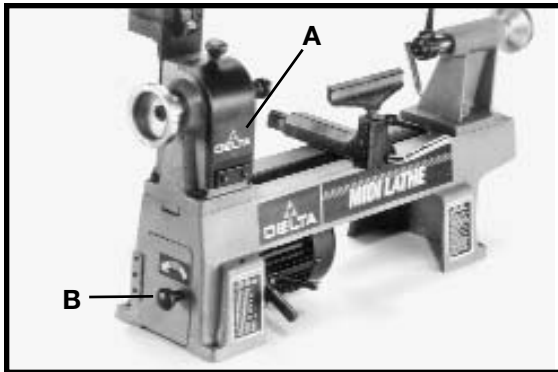
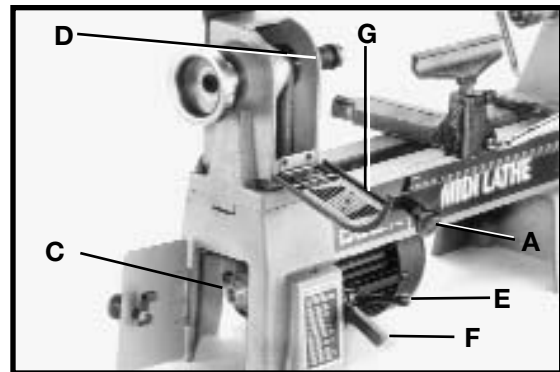
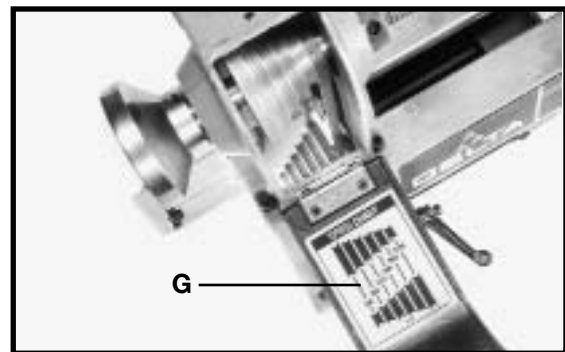

Fig. 19
Fig. 20
Fig. 21
- Open access doors (A) and (B) Fig. 19 to gain access to motor pulley (C) Fig. 20, and spindle pulley (D).
- Loosen locking lever (E) Fig. 20 to relieve tension on the motor pulley. Raise lever (F) Fig. 20, and tighten locking lever (E) to enable the drive belt to be moved on the pulleys. This action will provide the desired spindle speed for your particular application.
IMPORTANT: A speed and belt position chart (G) Figs. 20 and 21 is located on the inside of the access door (A) to help position the belt (H) Fig. 21 correctly on the pulleys.
- While holding lever (F) Fig. 20, loosen locking lever (E). This will release tension on the motor. Lower the motor. (**NOTE:** The weight of the motor will provide proper tension on the drive belt.) Tighten locking lever (E).